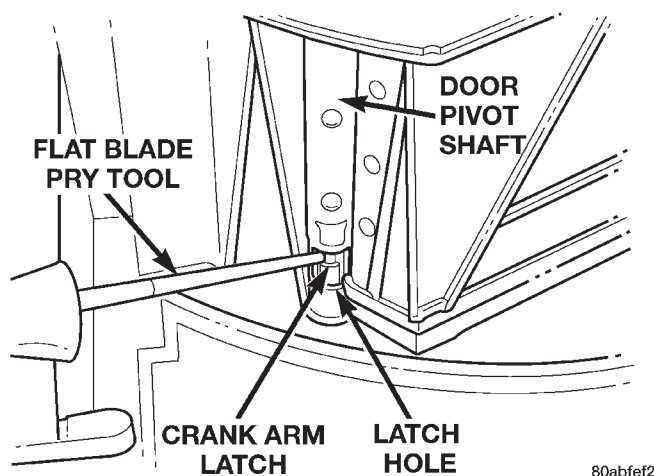

Fig. 51 Mode Door Lever Remove/Install - Typical
(1) Remove and disassemble the heater-A/C housing. See Heater-A/C Housing in this group for the procedures.
(2) Remove the defrost and panel/demist door vacuum actuators from the heater-A/C housing. See Mode Door Vacuum Actuator in this group for the procedures.
(3) Insert a screwdriver into the latch hole (Fig. 51) of the panel/demist door pivot shaft to release the latch of the panel/demist door lever, and pull the lever out of the pivot shaft from the outside of the upper half of the heater-A/C housing.
- (1) Remove and disassemble the heater-A/C housing. See Heater-A/C Housing in this group for the procedures.
- (2) Remove the panel/demist door and lever from the upper heater-A/C housing. See Panel/Demist Door and Lever in this group for the procedures.
- (3) Insert a screwdriver into the latch hole (Fig. 51) of the defrost door pivot shaft to release the latch of the defrost door lever, and pull the lever out of the pivot shaft from the outside of the upper half of the heater-A/C housing.
- (2) Remove the floor door vacuum actuator from the lower heater-A/C housing. See Mode Door Vacuum Actuator in this group for the procedures.
- (3) Insert a screwdriver into the latch hole (Fig. 51) of the floor door pivot shaft to release the latch of the floor door lever, and pull the lever out of the pivot shaft from the outside of the lower half of the heater-A/C housing.